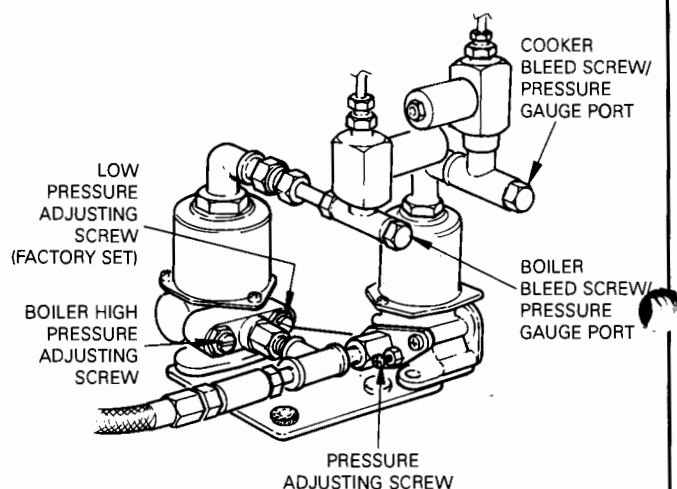

FIG. 15
- SEE FIG. 15
- SEE FIG. 15 & 18